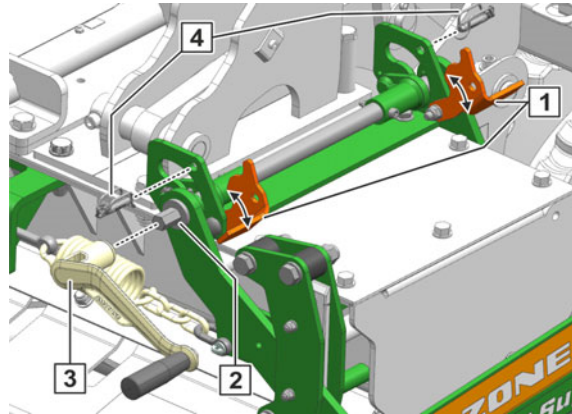

Fig. 151
1. Remove the linch pin (Fig. 151/4)
2. Put the operating tool (Fig. 151/3) on the setting shaft (Fig. 151/2).
3. To relieve the angle bracket (Fig. 151/1), turn the operating tool clockwise.